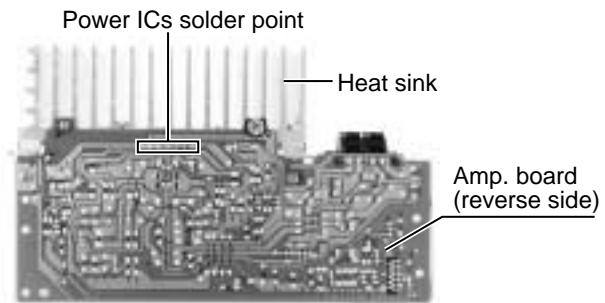

Fig.15
■Removing the power ICs (See Fig.15 and 16)